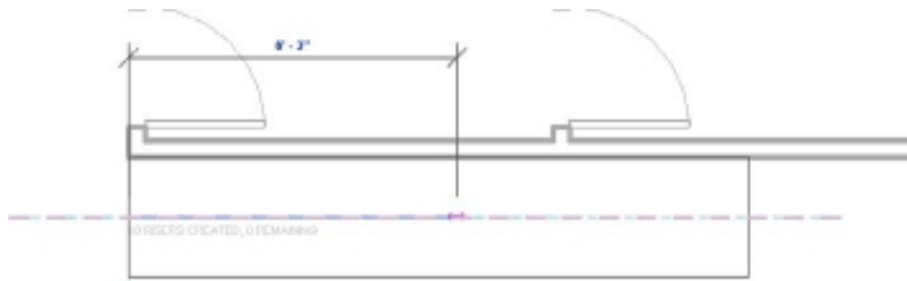

Figure 3.107
6. Drag the mouse pointer to the end of the run, and click to define the end of the run (Figure 3.107).